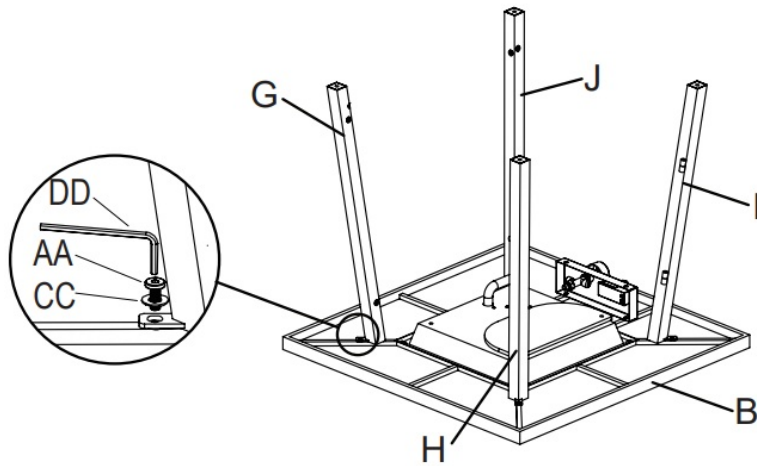

Figure 2
- Attach back-left leg (G) and back-right leg (H) and front-left leg (J) and front-right leg (I) to table top assembly (B) with bolts (AA) and washer (CC) by using hex screw driver (DD), (see Figure 2).